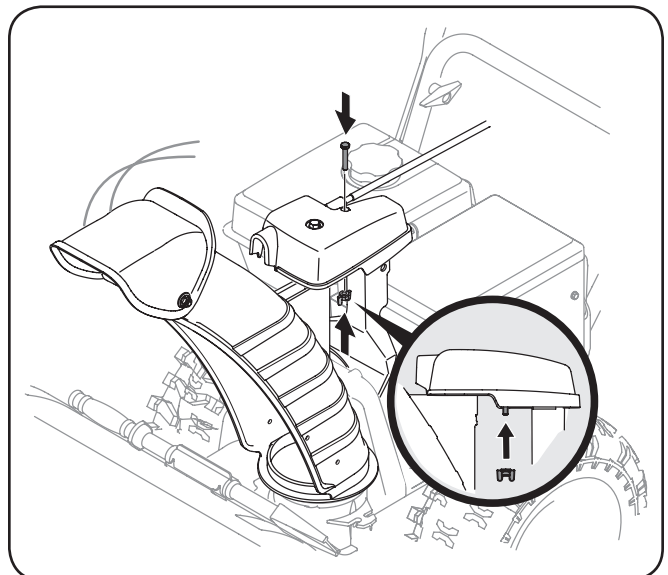

Figure 3-6
4. Finish securing chute control head by installing hex bolt and wing nut. See Figure 3-6.